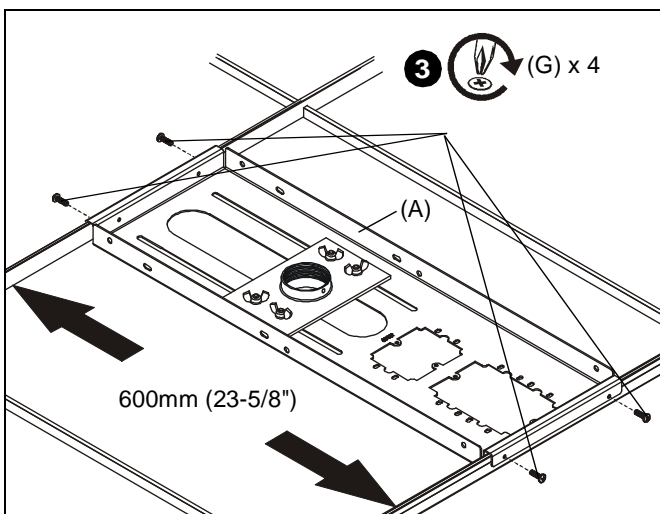

Figure 8
- **For 600mm (23-5/8") Framework:** Install screws through end bracket *outside* holes (See Figure 8).